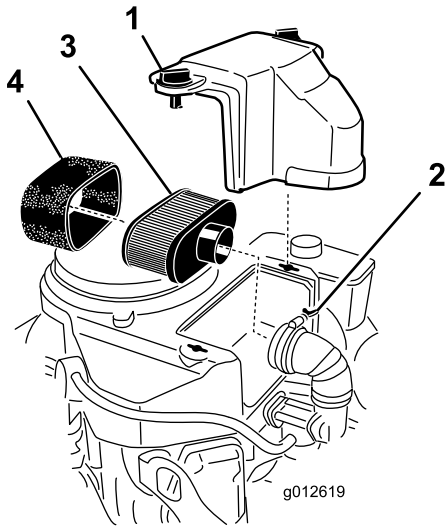

Figure 41
3. Clean around the air cleaner to prevent dirt from getting into the engine and causing damage (Figure 41).
4. Loosen the cover knobs and remove the air-cleaner cover (Figure 41).
- Loosen the hose clamp and remove the air-cleaner assembly (Figure 41).
- Carefully pull the foam element off the paper element (Figure 41).
- Clean the paper element by tapping it gently to remove dust. If it is very dirty, replace the paper element (Figure 41).
- Carefully slide the foam element onto the paper element (Figure 41).
- Place the air-cleaner assembly onto the air-cleaner base or hose and secure it (Figure 41).
- Place the air-cleaner cover into position and tighten the cover knobs (Figure 41).